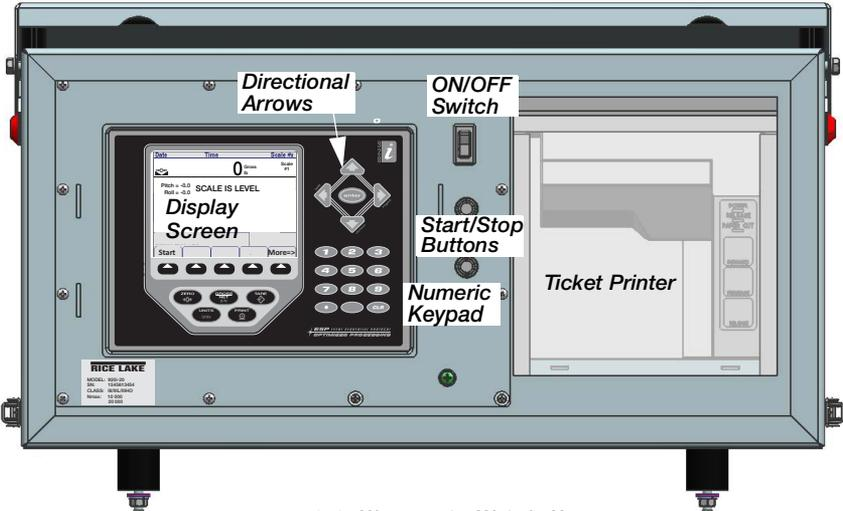

Figure 3-1 Electronic Weigh Center
3. Turn the electronic weigh center on by pressing power switch up (see Figure 3-1). See following sections for weighing modes.